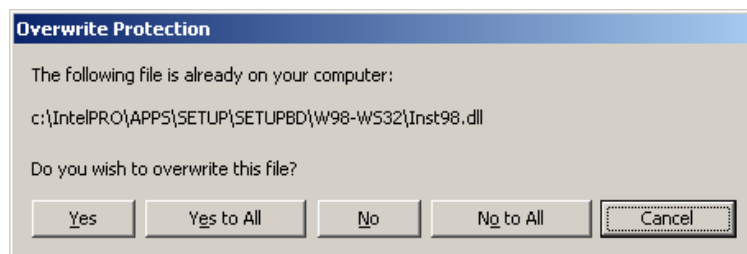

Figure 7-23: Overwrite Protection
Step 10: If the **Overwrite Protection** window appears (**Figure 7-23**), make the appropriate choice to either continue the installation process or not.